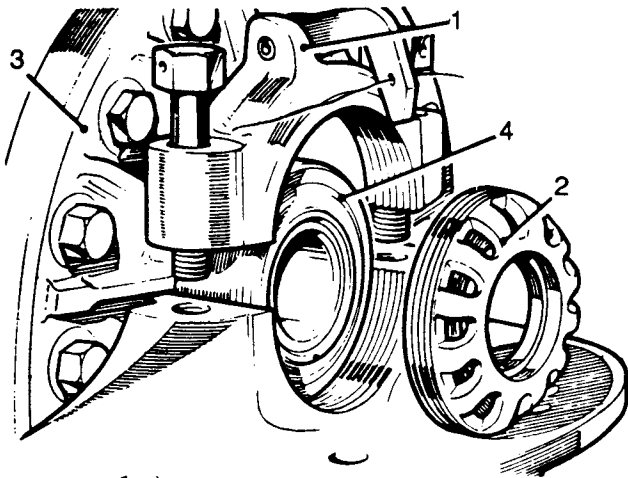

Fig J2.44
- (2) Refer to Fig J2.44. Remove the bearing caps (1).
- (3) Remove the serrated nuts (2).
- (4) Withdraw the crownwheel and differential assembly (3).
- (5) Withdraw the differential bearings outer tracks (4).